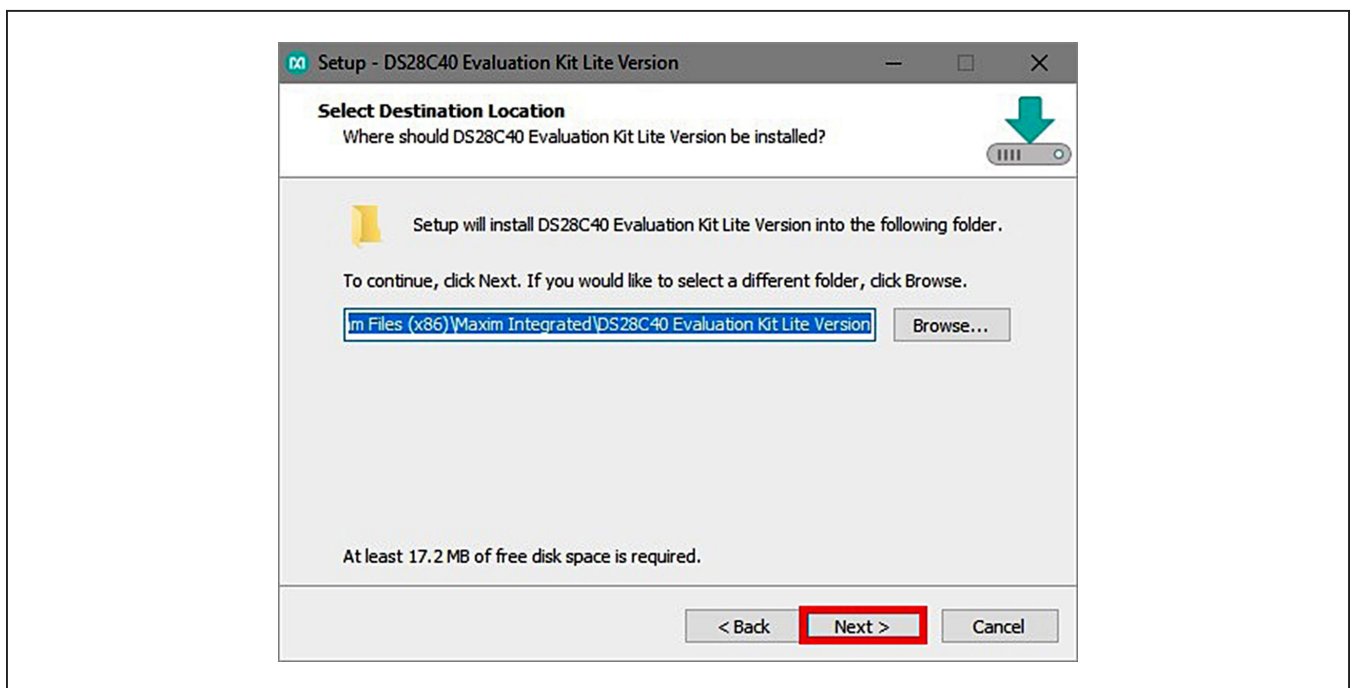

Figure 3. Install Folder Location
- 4) Click **Next** (Figure 3) to install to the default folder.